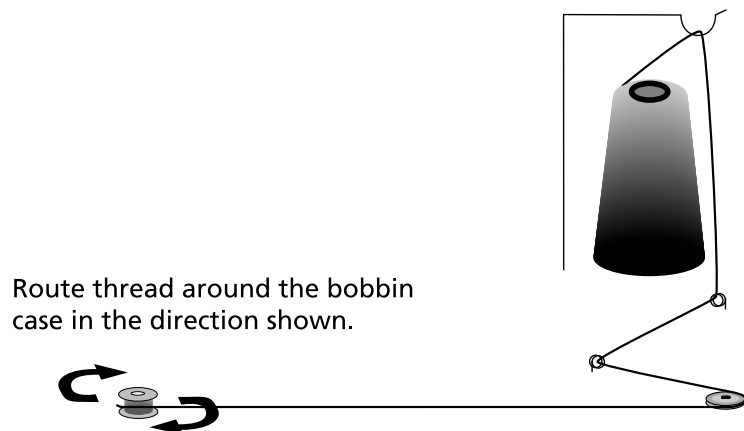

Figure 3-26
1. Thread the winder as shown in Figure 3-26. The arrows on the base plate indicate the direction of the thread path.